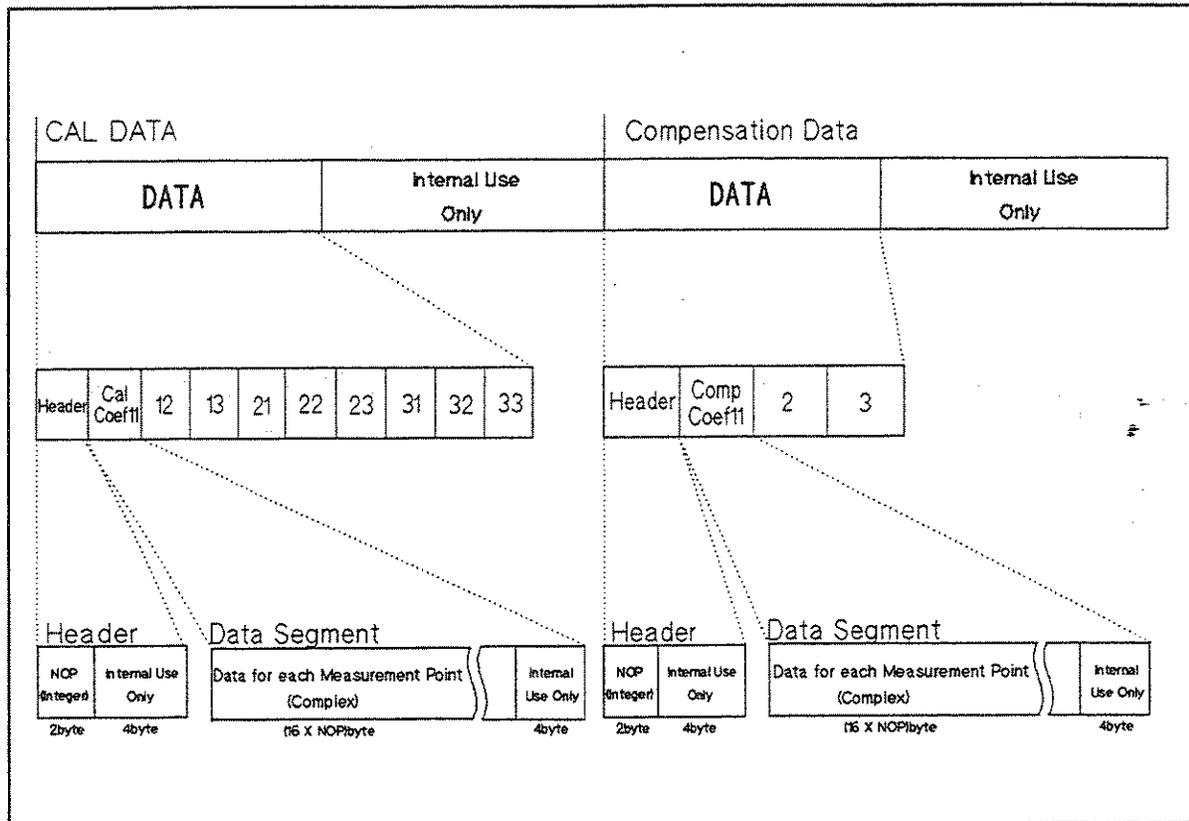

Figure 5-11. CAL Data Group Structure
- CAL consists of data segments as shown in Figure 5-11.